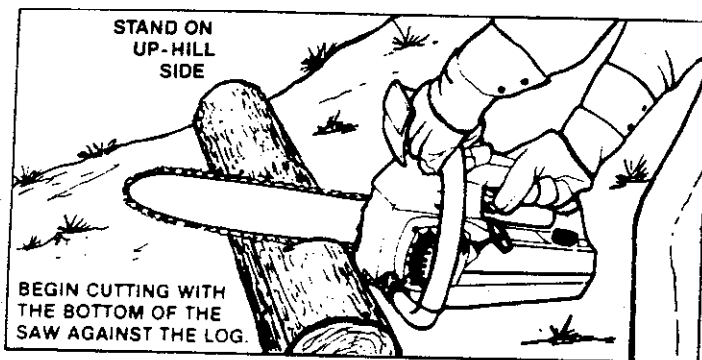

Figure 18
- Begin cutting with the saw frame against the log. Figure 18.